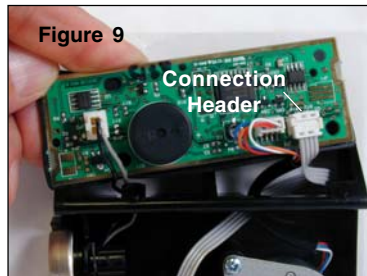

Figure 9
6. Insert the keyed Picoflex connector on the end of the ribbon cable into the connection header on the keypad. (Figure 9)